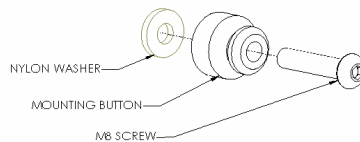
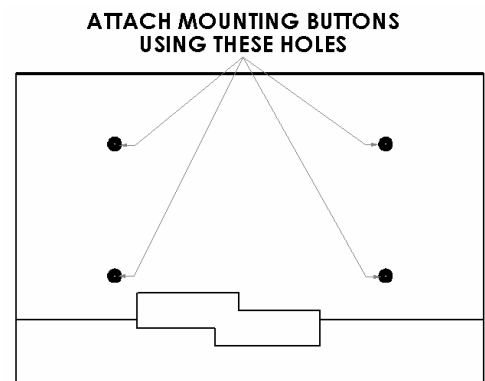

Figure 3
Figure 4
2. Attach mounting buttons to the display using four M8 screws and Nylon washers (provided) (see Figure 3 & Figure 4). Use the appropriate length of screw for your particular screen.